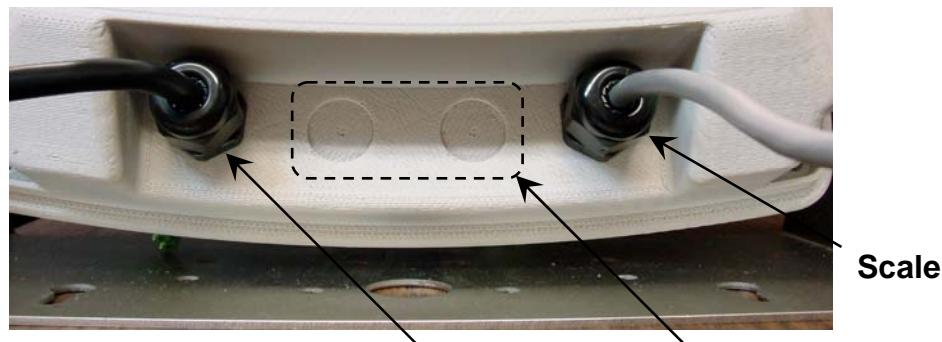

Figure No. 2
- 3.3.2. Referring to Figure No. 2, choose a gland connector for the load cell cable and loosen it.
- 3.6.1. Remove the 4 screws securing the front panel to the rear housing and then loosen a gland connector for the serial cable. Refer to Figure No. 2 for an illustration of the connector layout.